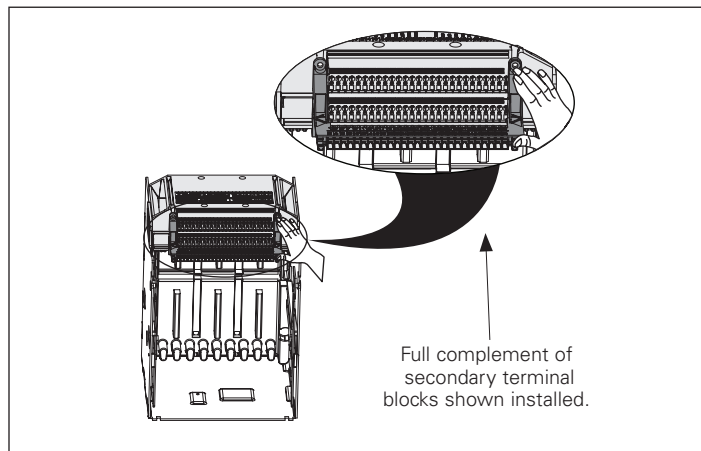

Figure 2. Cassette mounted terminal blocks (NF frame).
**KEEP IN MIND THAT SECONDARY TERMINAL BLOCKS ASSOCIATED WITH DRAWOUT CIRCUIT BREAKERS ARE DIN RAIL MOUNTED ON THE BREAKER'S DRAWOUT CASSETTE (FIGURE 2). ACCESSORY SECONDARY PLUGS PLUG INTO A SECONDARY PLUG HOUSING MOUNTED ON THE TOP FRONT OF THE CIRCUIT BREAKER. AS SUCH, SECONDARY CONNECTIONS ARE AUTOMATICALLY MADE OR DISCONNECTED DURING THE LEVERING (RACKING) PROCESS AS THE SECONDARY PLUG HOUSING ON THE BREAKER ENGAGES OR DISENGAGES THE SECONDARY TERMINAL BLOCKS MOUNTED ON THE DRAWOUT CASSETTE. FOR THIS REASON, ACCESSORY SECONDARY PLUGS DO NOT HAVE TO BE UNPLUGGED TO ADD OR REMOVE TERMINAL BLOCKS.**
**Step 1.** Become familiar with the drawout terminal block (see Figures 2 and 3) and the cassette's DIN rail mounting location.